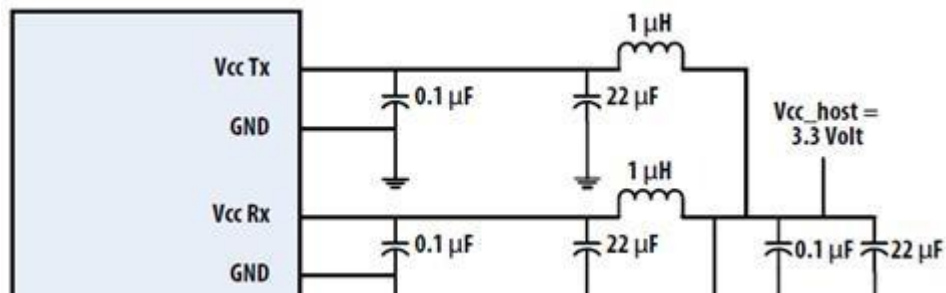

Figure 4. Recommended Power Supply Filter
- VccRx, Vcc1 and VccTx are the receiver and transmitter power suppliers and shall be applied concurrently. Recommended host board power supply filtering is shown in Figure 4 below. Vcc Rx, Vcc1 and Vcc Tx may be internally connected within the QSFP28 transceiver module in any combination. The connector pins are each rated for a maximum current of 1000mA.